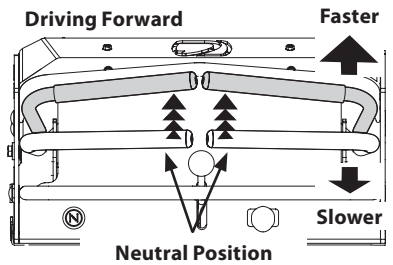

Figure 11
4. Slowly and evenly move both drive control levers forward. The mower will start to move forward (Figure 11).